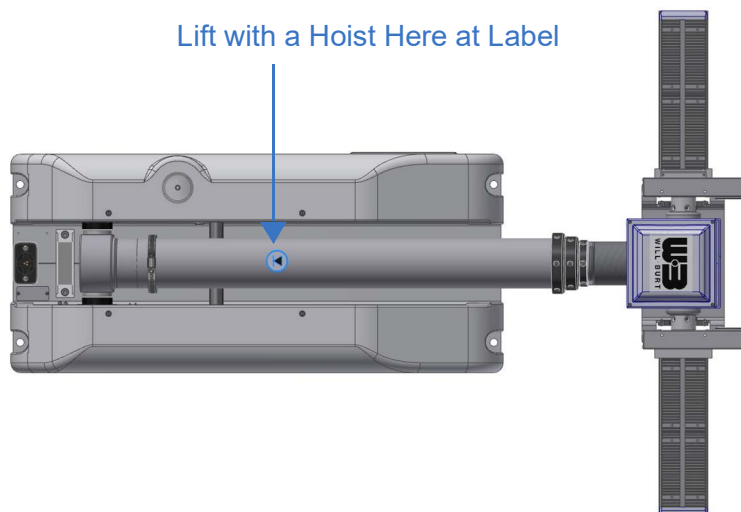

Figure 5-2 Center of Gravity Hoisting Position
- Using a hoist, lift the Night Scan Chief from the shipping container by the mast tube at the labeled center of gravity symbol (Figure 5-2) position. Do not lift using the RCP or lights/camera. Lifting from locations other than those indicated could result in equipment damage. Use two point contact for slings to keep the load stable while moving.